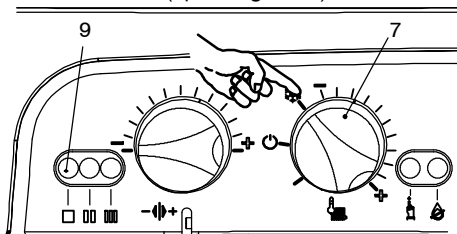

Fig. 2.4
- 2 Turn on the electricity supply to the boiler, switching on the fused spur isolation switch. The appliance operation light 9 (Fig. 2.4) will flash every 4 seconds (stand-by condition).
- 3 To operate the boiler, position the function selector 7 as in Fig. 2.4. The appliance operation light 9 will flash every 2 seconds (operating boiler).